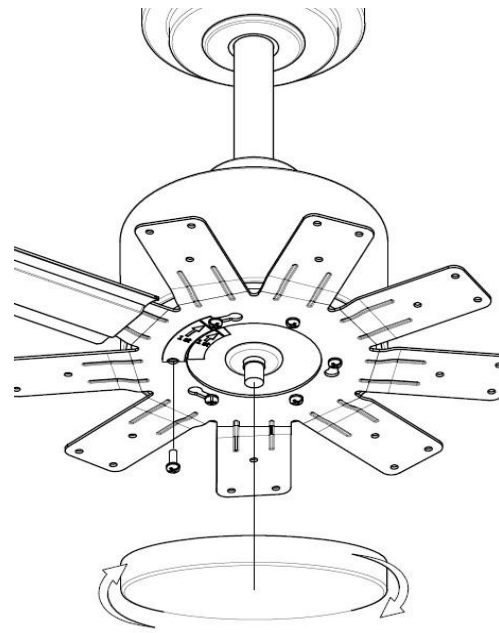

Fig. 11
- Finally install the bottom cover to the shaft of the motor by rotating it clockwise (Fig.11).